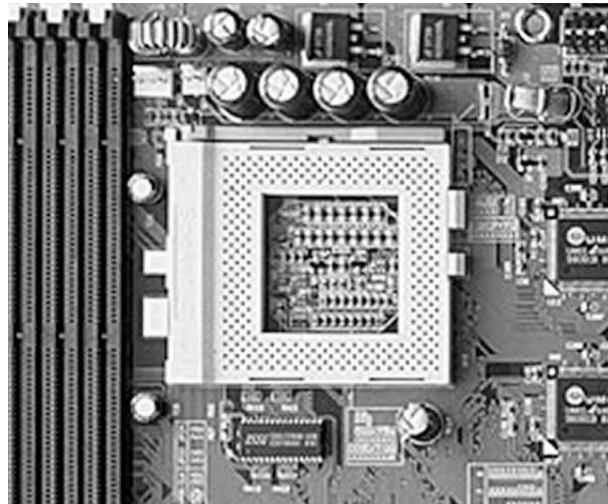

Figure 3-9. A Socket 7 microprocessor socket
- **Socket 7** A 321-pin staggered-format socket created to support later Pentium processors. It used a common interface between the L2 cache bus and the main system bus. This common interface typically limited the bus's clock speed. AMD K6, Cyrix 6x86, and IDT processors also use this socket format. This design also provided for a Voltage Regulator Module to allow different voltage levels to be implemented by the socket (see Figure 3-9).